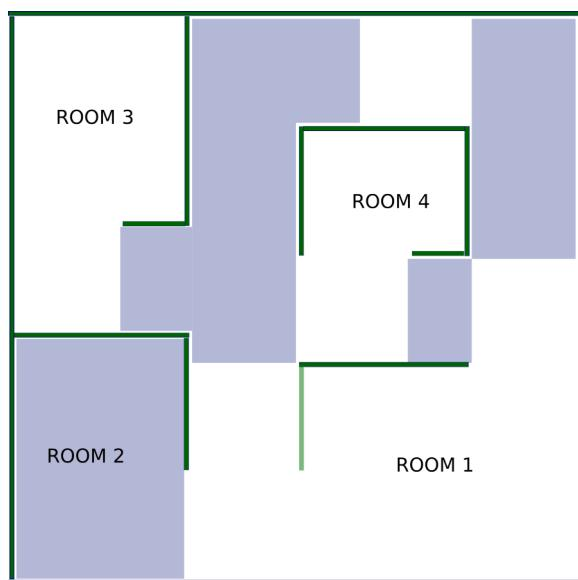

Figure 5.2: Allowed Rug Locations (FF Rug Locations.png)
1. Rugs will be placed in some or all of the rooms and hallways. There will be no shag rugs, but robots must navigate across 1 cm thick rug edges. The shaded areas in Figure 5.2 mark the allowed rug locations: not all rugs will be present and the locations and colors will be different in each arena.